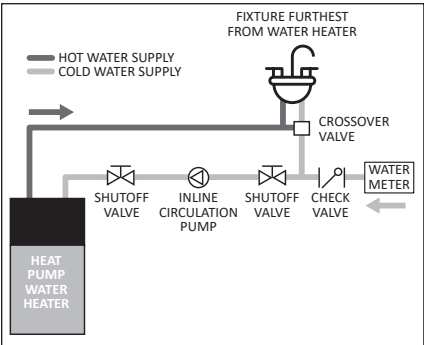

Figure 20 - Recirculation On-Demand Line
**IMPORTANT:** The recirculation system or pump must comply with local and state codes (see CA Title 24 Guidelines for installations in the state of California). When implementing the recirculation loop, a crossover valve must be installed on the furthest fixture from the water heater, and an on-demand inline circulation pump must also be installed on the cold water supply line (see Figure 20). Refer to manufacturer’s installation instructions and requirements for the crossover valve and circulation pump.